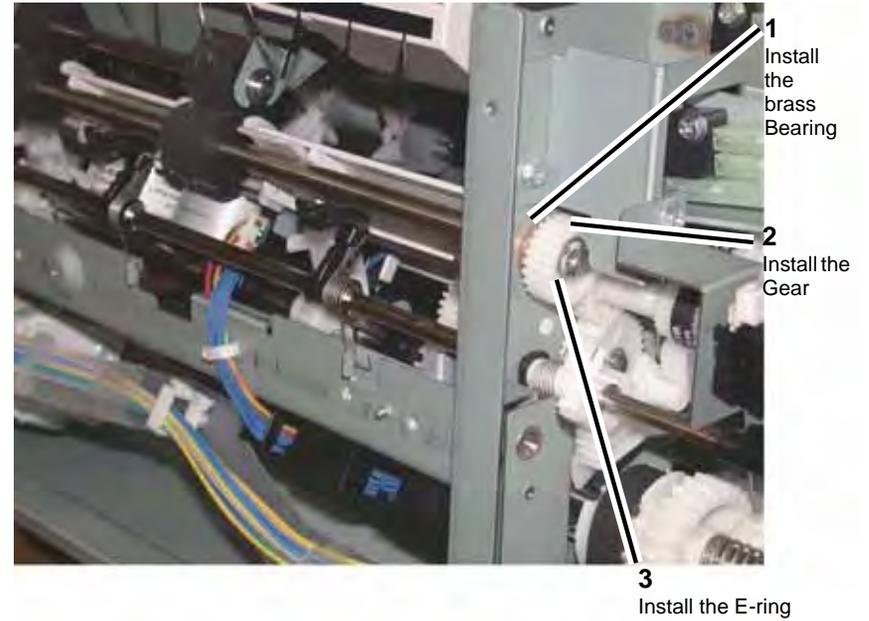

Figure 19 Installing the Eject Roll Shaft rear parts
(2) Install the brass bearing, the Gear and the E-ring onto the rear of the Eject Roll Shaft (Figure 19).